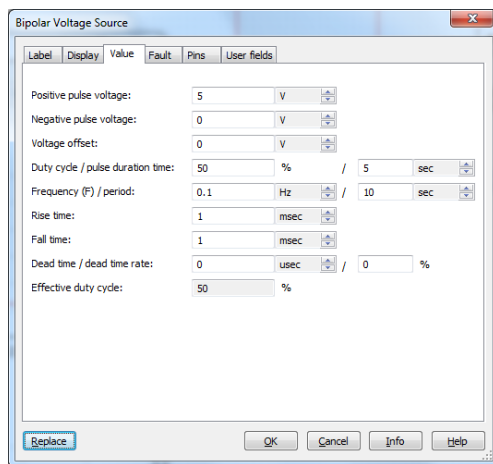

Figure 6
- The signal source is configured to produce a square-wave. Select: Place | Component | Sources | SIGNAL\_VOLTAGE\_SOURCE | BIPOLAR\_VOLTAGE. After you place the component on your diagram right click on it, select properties and set the model up as in Figure 6. Below.